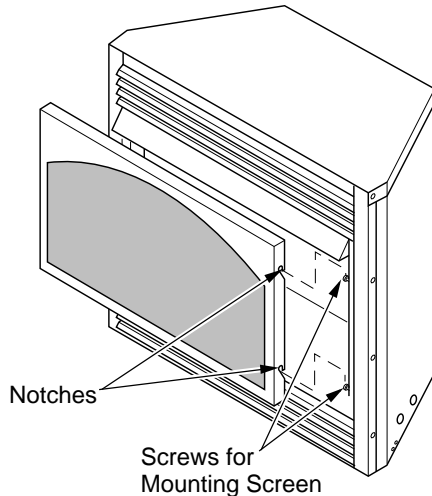

Figure 28 - Installing Fireplace Screen
5. Install fireplace screen by slipping notches of fireplace screen over screws on front of fireplace (see Figure 28, page 15).
4. Install fireplace screen by slipping notches of fireplace screen over screws on front of fireplace (see Figure 28).